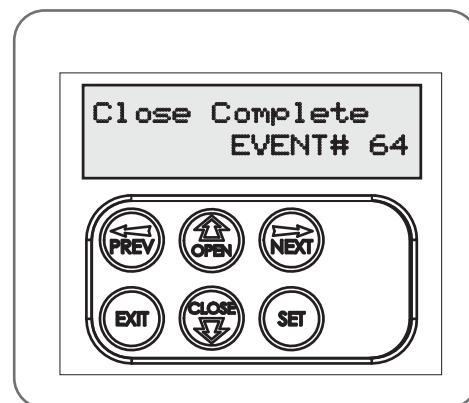

Fig E.5
The NeoSlider™ keeps a record of the last 64 events that have taken place. The events include the type of drive cycles executed, obstruction detection, various faults, power failures etc. When this tool is selected, the screen displays the last event that occurred (Fig. E.5). Press NEXT or PREV to view each event. The "EVENT#" field shows the sequence of the events, with (1) being the first and (64) being the last. The example shows that the last event was a close cycle which succeeded in closing the gate. When finished viewing the events, press EXIT.